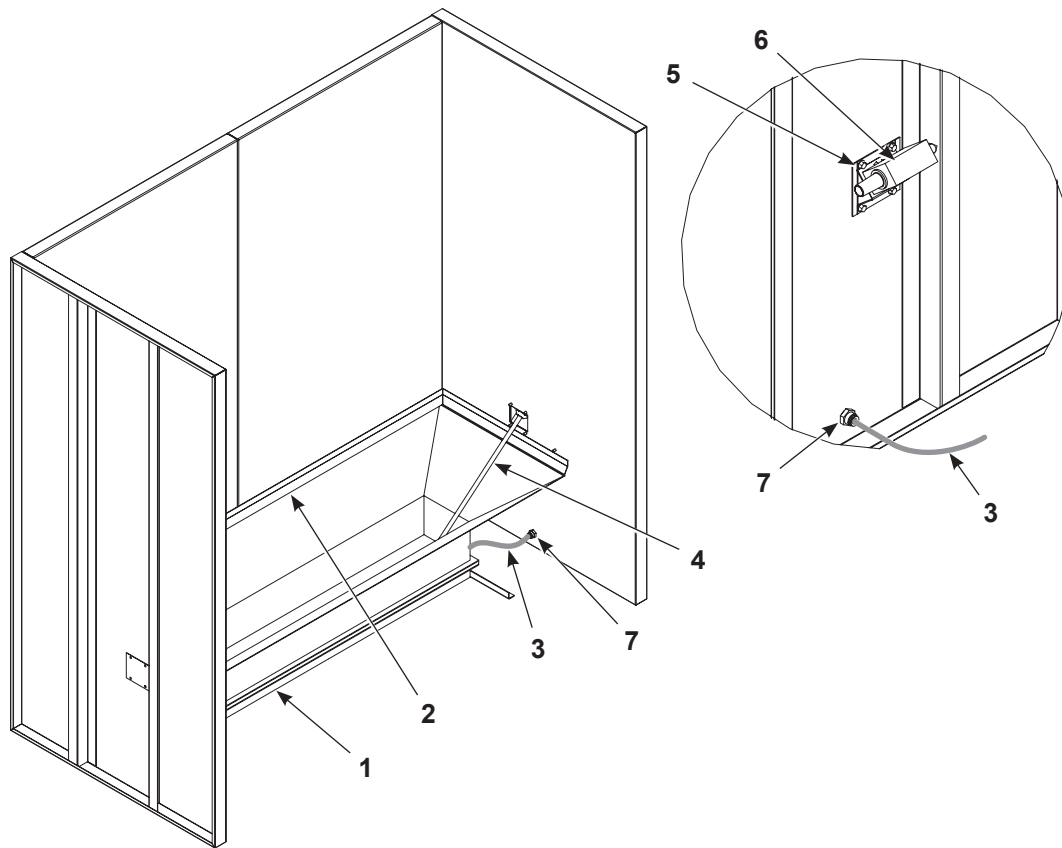

Figure 16 Hopper and Transfer Pump Installation
1. See Figure 16. Slide the hopper(s) (1) into the collector module, up against the back and side walls.
3. Remove the backing from the drip edge (2) adhesive tape, then press the drip edge into place slightly above the hopper.